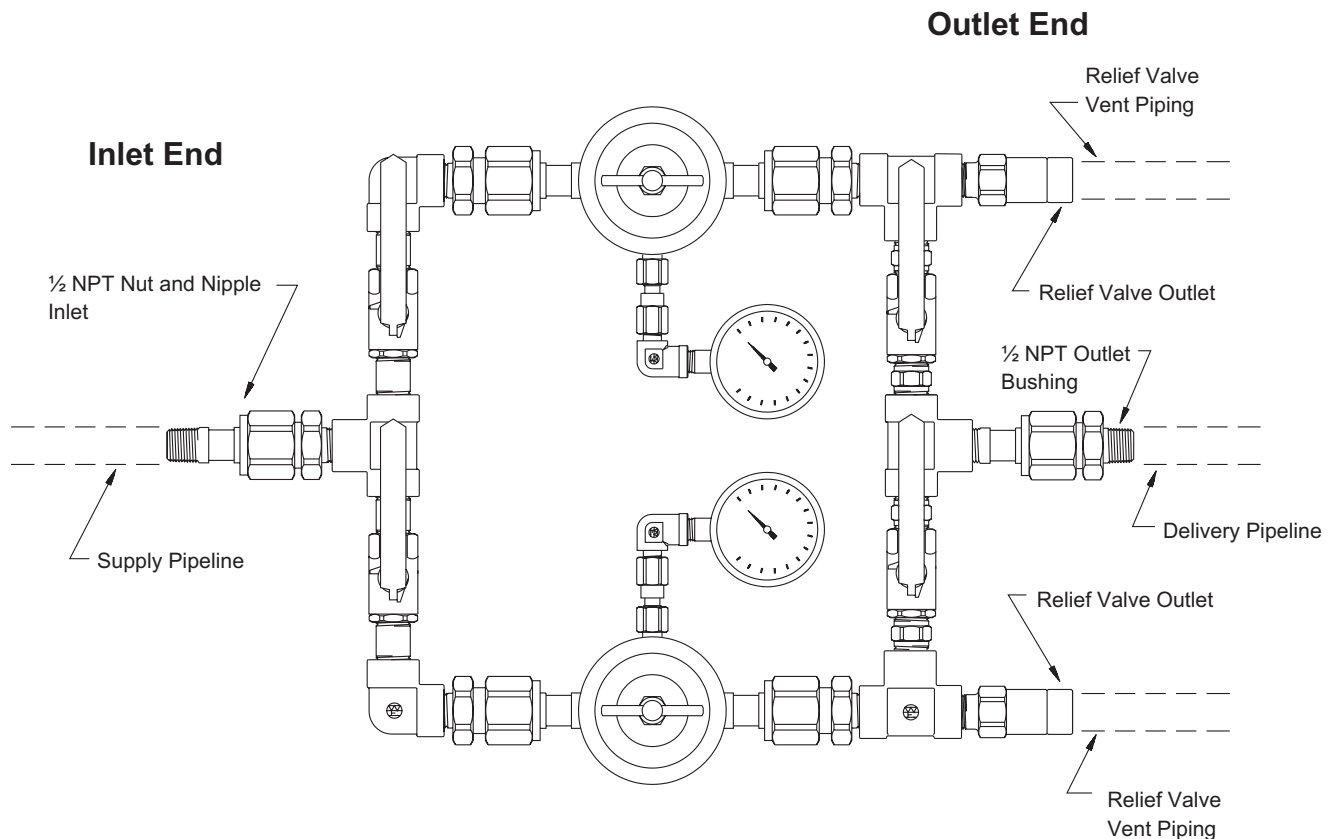

Figure 2
1. Identify the appropriate components per figure 2.